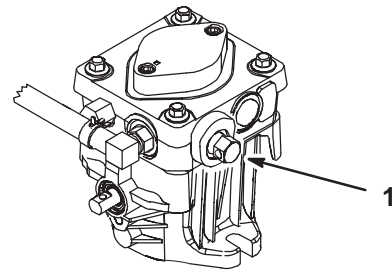

Figure 25
2. Rotate the by-pass valves counterclockwise 1 turn to push. This allows hydraulic fluid to by-pass the pump enabling the wheels to turn (Fig. 25).
Turn the by-pass valves in to operate (Fig. 25).